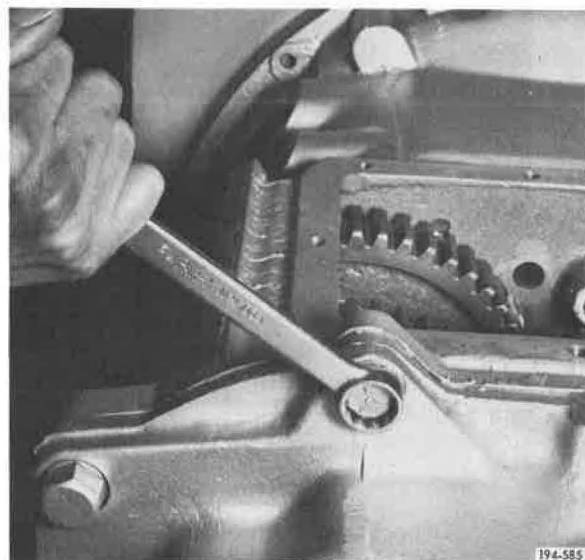

Figure 5-691. Removing Capscrews
26. Remove front case to rear case capscrews. See **Figure 5-691**.